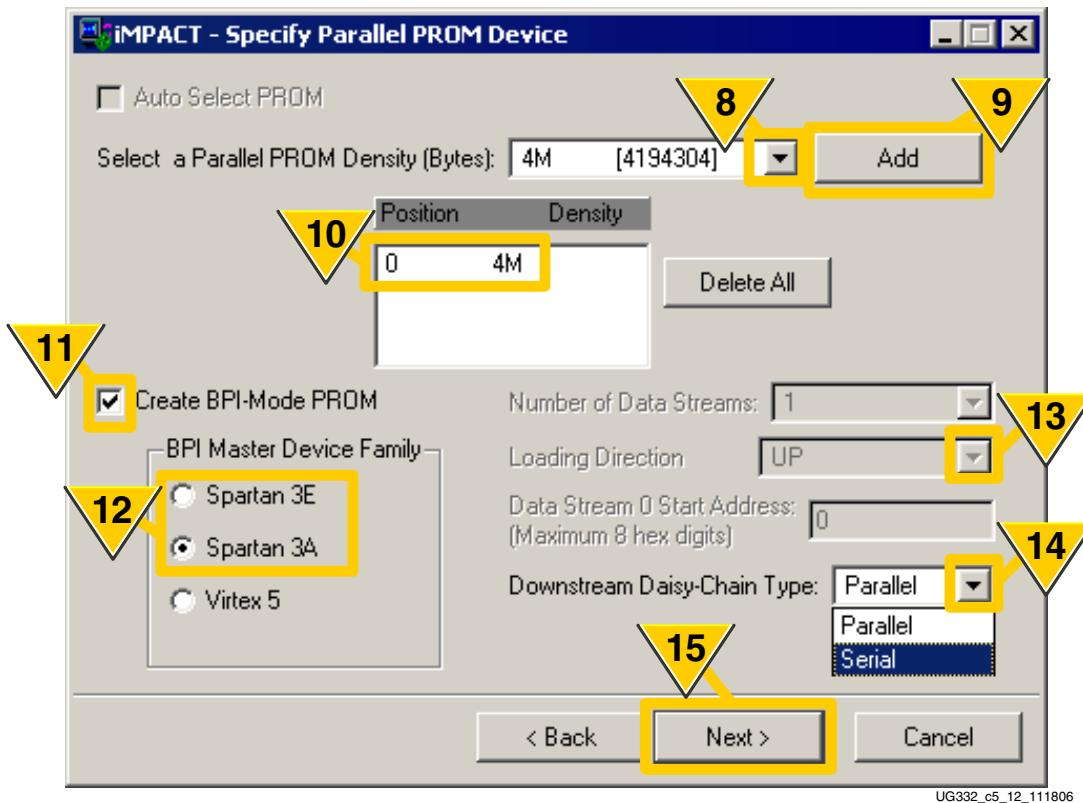

Figure 5-10: Select Parallel PROM Size and Configuration Style
The **CCLK** output from the master device operates at 8 times the frequency of the Flash read interface and **CCLK** synchronizes all FPGAs in the daisy chain. The master FPGA accesses the byte-wide Flash once every 8 **CCLK** cycles but provides serial data on its **DOUT** output to downstream FPGAs every **CCLK** cycle. iMPACT programming software automatically adjusts the **CCLK** frequency when serial daisy chains are selected in Step 14, Figure 5-10, page 164. In standalone BPI mode, the **ConfigRate** option determines the byte-wide interface frequency. When a BPI daisy chain is selected, the **ConfigRate** option determines the serial interface frequency, and the parallel Flash interface will run at 1/8 of that rate.
8. As shown in Figure 5-10, select the Parallel PROM Density, measured in bytes. This example uses a 32 Mbit Flash PROM, equivalent to 4 Mbytes.